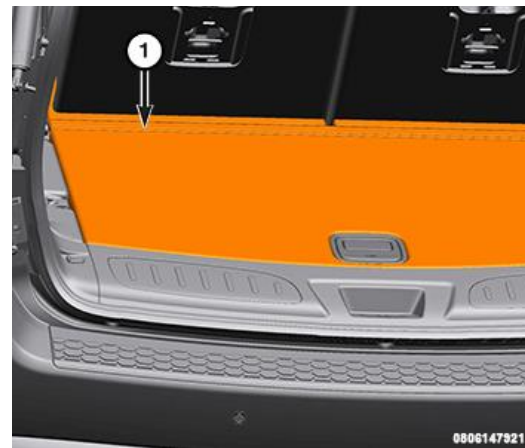

Figure 19 – Load Floor Lid
35. Open and remove the load floor lid (1) (Figure 19).